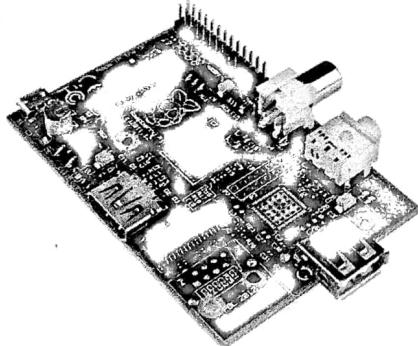

Fig. 14.1.1 : Raspberry Pi
- It includes a Broadcom chip with 700MHz CPU based on the old ARM11 processor design. The PCB can also handle 1080p multimedia and comes with at least one HDMI port. A comparison chart of various models of Raspberry pi is given in Table 14.1.1 and Fig. 14.1.1 shows an image of a Raspberry Pi.